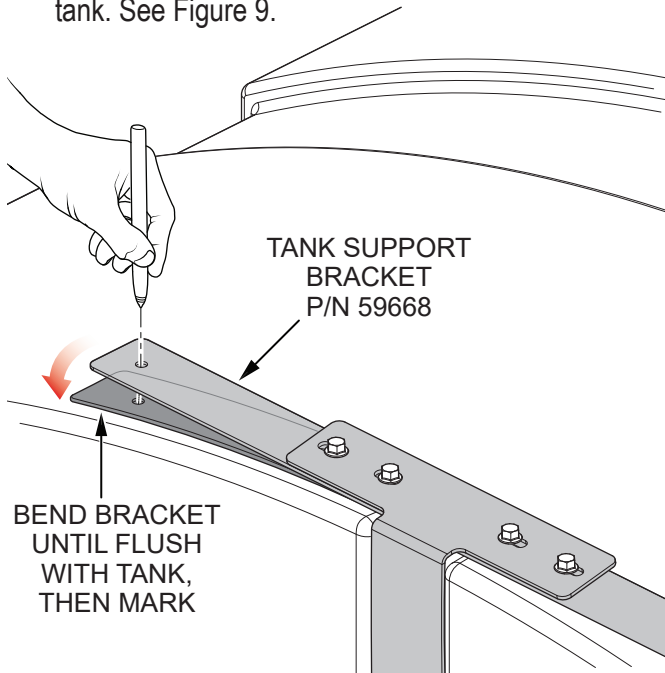

Figure 9. Mark New Hole Locations
1. Slightly bend one of the **tank support brackets (P/N 59668)** until the ends of the bracket are in full contact with the water tank, while keeping the bracket as parallel to the edge of the water tank as possible. Mark the locations of the two outer holes on the water tank. See Figure 9.